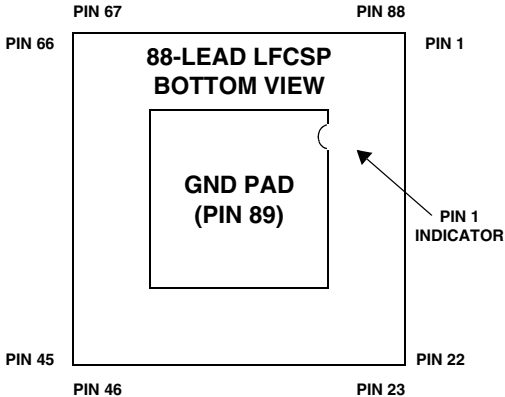

Figure 92. 88-Lead LFCSP Lead Configuration (Bottom View)
* Pin no. 89 is the GND supply (see Figure 92) for the processor; this pad **must** connect to GND.
Figure 92 shows the bottom view of the LFCSP lead configuration.